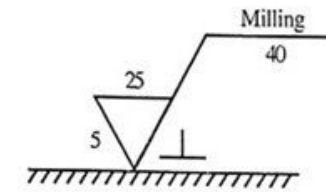

Figure 1
- c) State the meaning of symbol shown in figure 1. 6